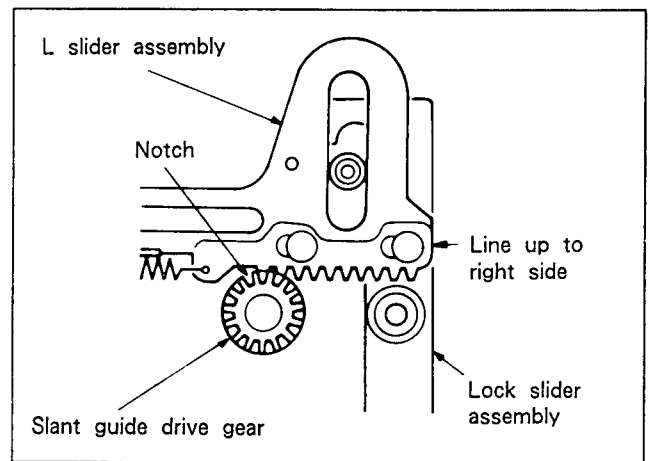

Fig. 7-27.
- 1) Operate the mode selector, and line up the right edge of the L slider assembly and the right edge of the lock slider assembly. (See Fig. 7-27.)
**Note:** At this time, confirm the engagement position of the slant guide drive gear and L slider assembly gear. (See Fig. 7-27.)